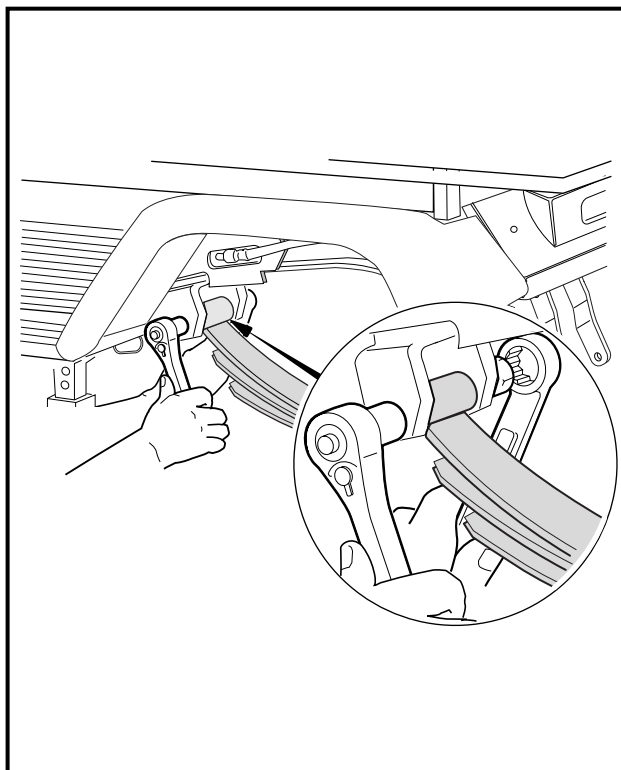

Figure 16-27 Spring Retainer Bolts
10. Remove the bolts securing the leaf springs to their front mounts (**Figure 16-27, Page 16-13**).